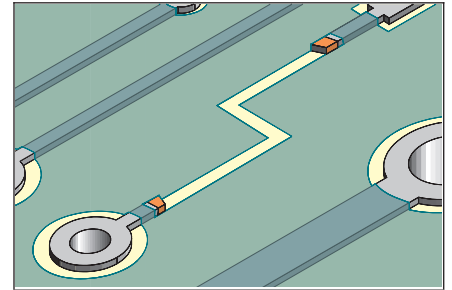

Figure 1 Scrap off any coating from the ends of the conductors.
3. Use a knife and scrape off any solder resist or coating from the ends of the remaining conductor. (See Figure 1.)